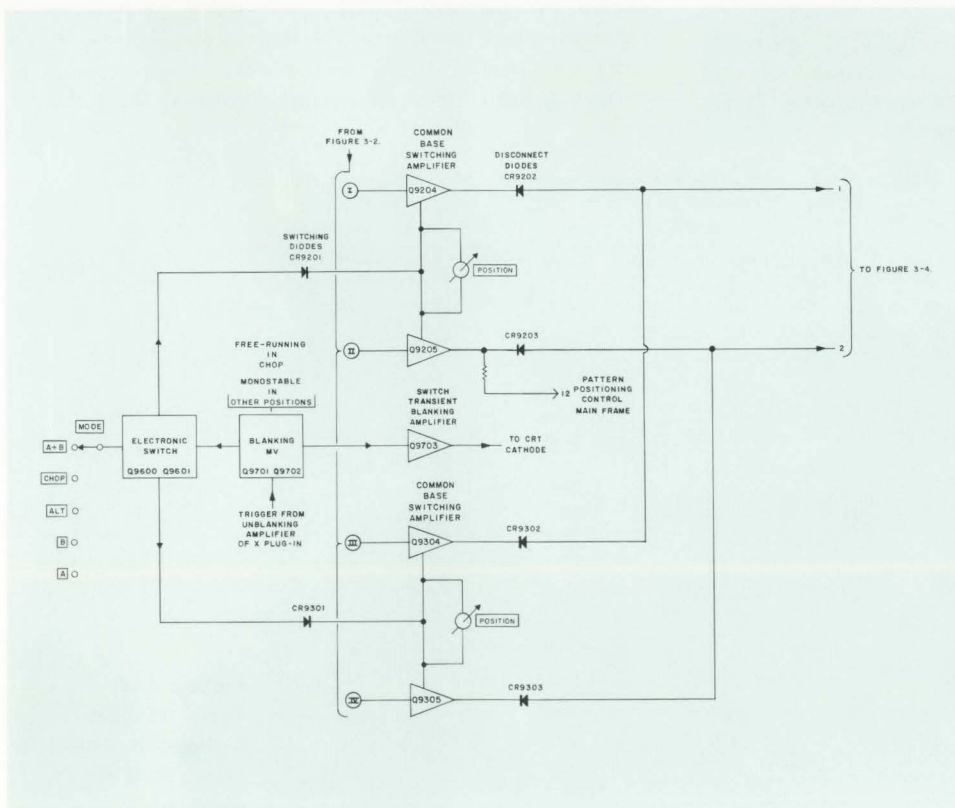

Figure 3-3. Type 76-02A Electronic Switching Circuit Functional Block Diagram
- Figure 3-3. Type 76-02A Electronic Switching Circuits, Functional Block Diagram
### 3-3. ELECTRONIC SWITCH CIRCUIT DESCRIPTION (Figure 3-3)